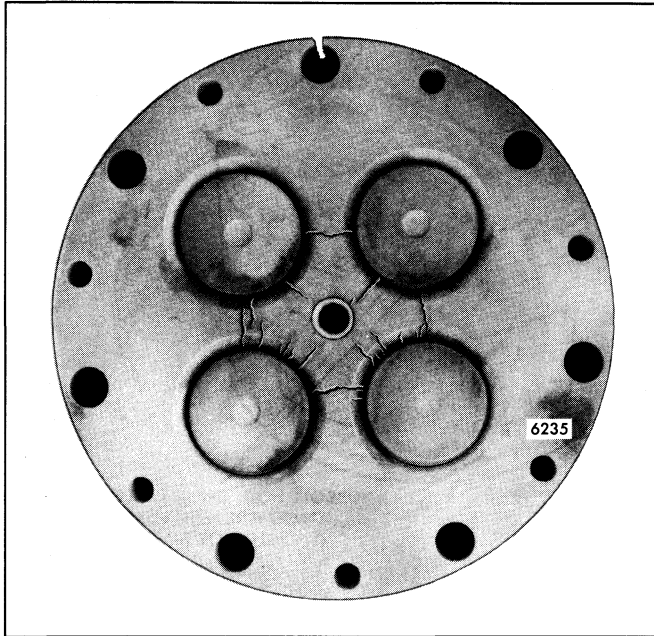

Fig. 8 - Valve-to-Valve or Valve-to-Injector Tube Hole Cracks (Head Not Usable)
- c. Cylinder heads with cracks that extend from valve-to-injector tube hole (Fig. 8) should be considered unacceptable for reuse. The progression of these types of cracks may cause coolant leakage into the cylinder areas, resulting in severe engine damage.